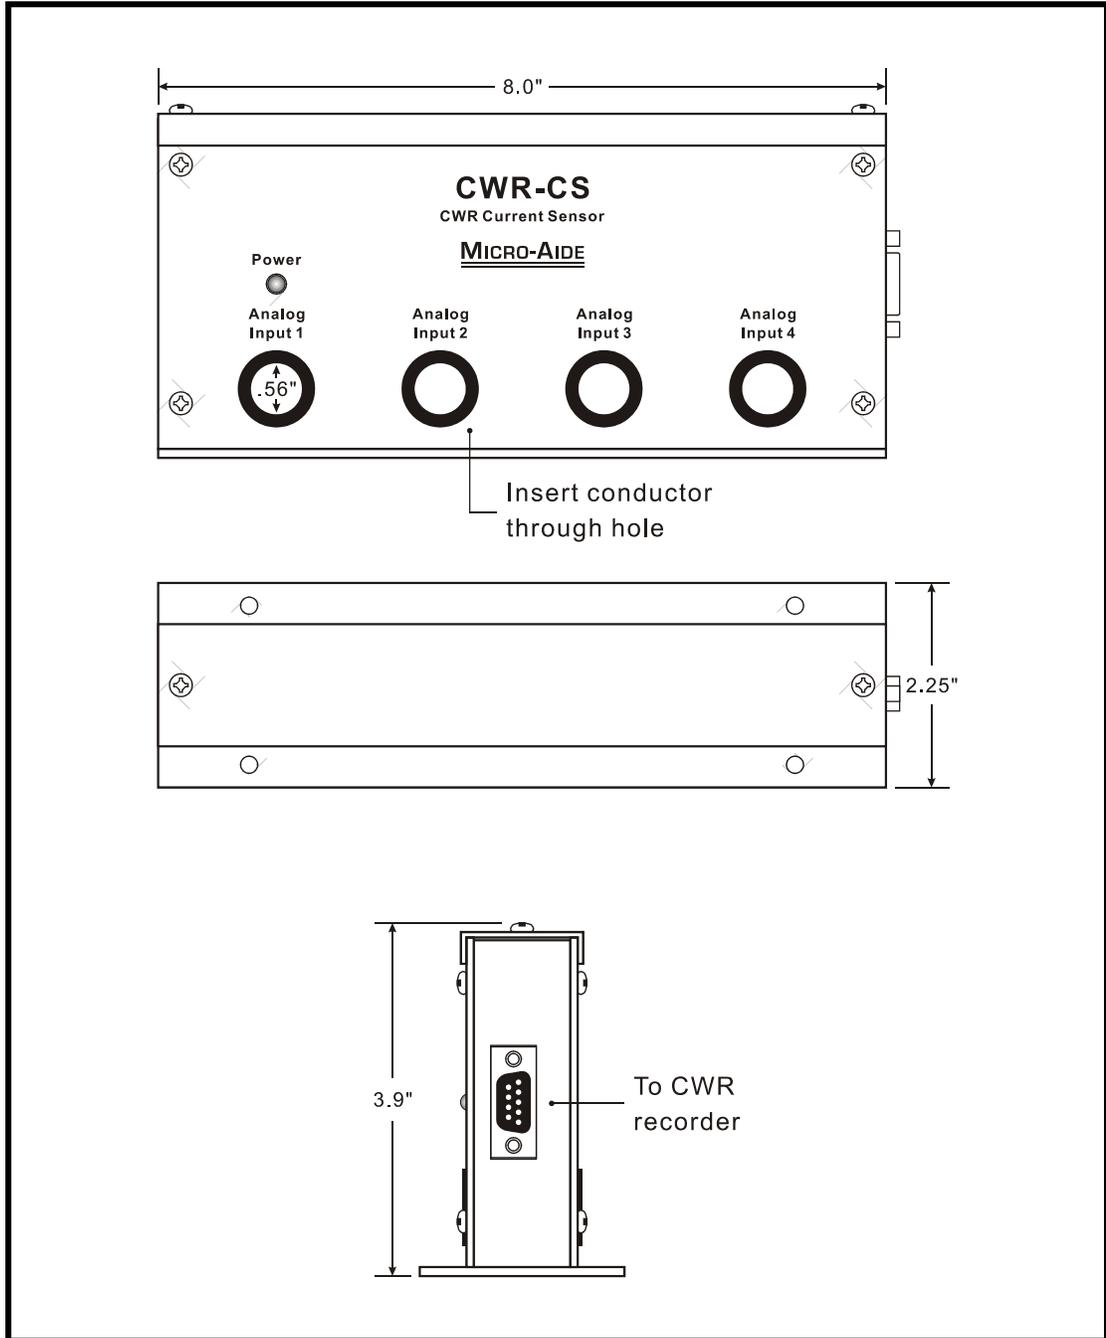

Figure 8 - CWR-CS Front, Top and Side Views
The CWR-CS is an optional accessory that can be used with any MICRO-AIDE CWR series Event Recorder. It is equipped with four general purpose current sensing inputs. Any of the first four Analog Inputs (i.e., A1 - A4) of the CWR-22xt can be individually configured to measure either AC or DC current. Refer to the section entitled “Analog Configuration (A)” on page 23. The CWR-CS provides the hardware by which the voltage sensing Analog Inputs of the recorder are converted to current operation. Figure 8 on page 90 provides an illustration of the CWR-CS.
Figure 8 illustrates a typical CWR-CS installation. The unit may be mounted in any orientation (e.g., vertical or horizontal). It is not sensitive to the earth's magnetic field. The base of the unit provides four mounting holes. A shelf or back board makes an ideal mounting platform.